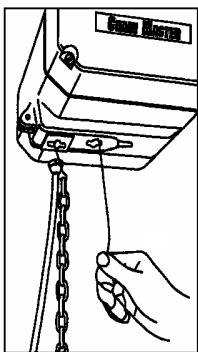

Figure 11 (step 1)
1. Push the pull-in wire (special tool) into and through the chain guide cross plate shown in Figure 11 until the wire hook is pushed out on the opposite side.